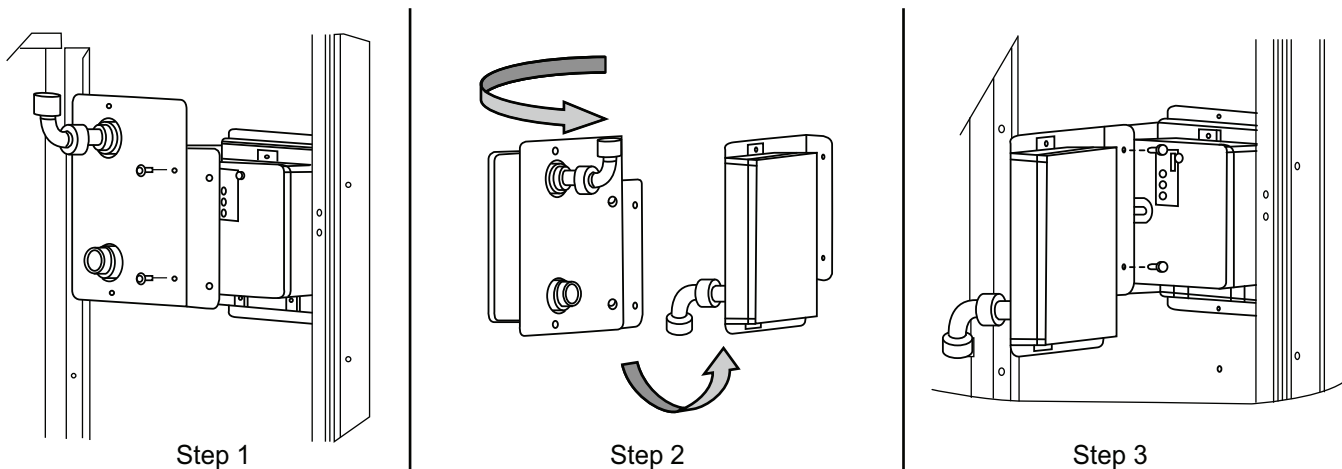

Fig. 63 — Completing Installation of Return-Air Smoke Sensor
1. Unscrew the two screws holding the return air smoke detector assembly. See Fig. 63, Step 1. Save the screws.
2. Turn the assembly 90 degrees and then rotate end to end. Make sure that the elbow fitting is pointing down. See Fig. 63, Step 2.
3. Screw the sensor and detector plate into its operating position using screws from Step 1. See Fig. 63, Step 3.